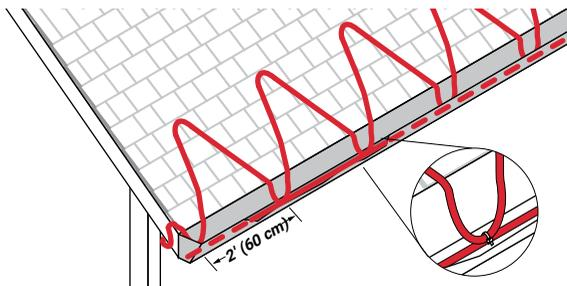

Figure 5: Layout in a zig-zag pattern
For sloped roofs, ice dams may form at the roof edge. To maintain a continuous path for melt water runoff, route the heating cable in a zig-zag pattern as shown in Figure 5 and follow the appropriate attachment recommendations in “Attachment Methods”, page 30. Additional heating cable may be needed for other gutters, downspouts, and valleys.
- Install the heating cable on the roof in a zig-zag pattern as shown in Figure 5.
Important: Attachment methods are not shown in Figure 5. For attachment methods, proceed to “Attachment Methods”, page 30.